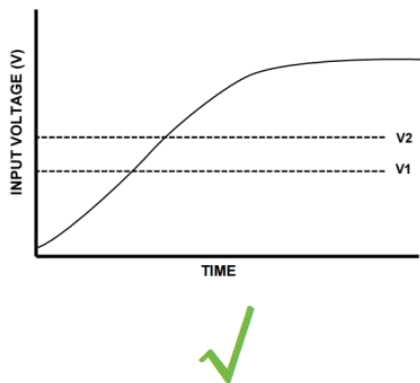
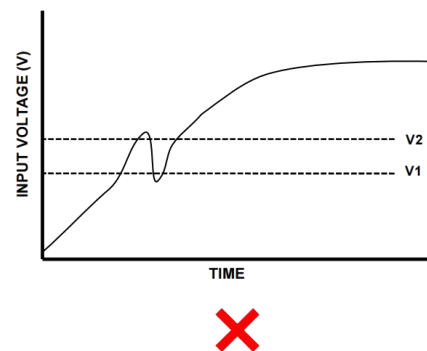

Figure 3-9 Monotonic power supply
Figure 3-10 Non-monotonic power supply
The iGMK must use the monotonic power supply shown in Figure 3-9 when powering on. If the non-monotonic power supply shown in Figure 3-10 is used, when the deviation is close to any threshold voltage, the non-monotonic slope may cause problems such as abnormal start of the driver, resulting in an error failure.
- In figure 3-9 and figure 3-10, V1 indicates 10V voltage, and V2 indicates 17V voltage.